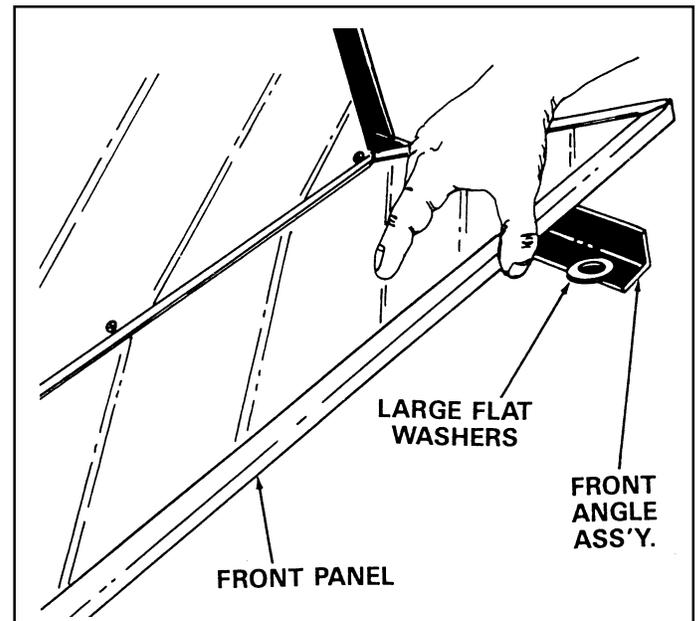

FIGURE 6
- Lay the front panel down onto the front angle assembly, on top of the four large $1-1/2"$ dia. washers. See figure 6.